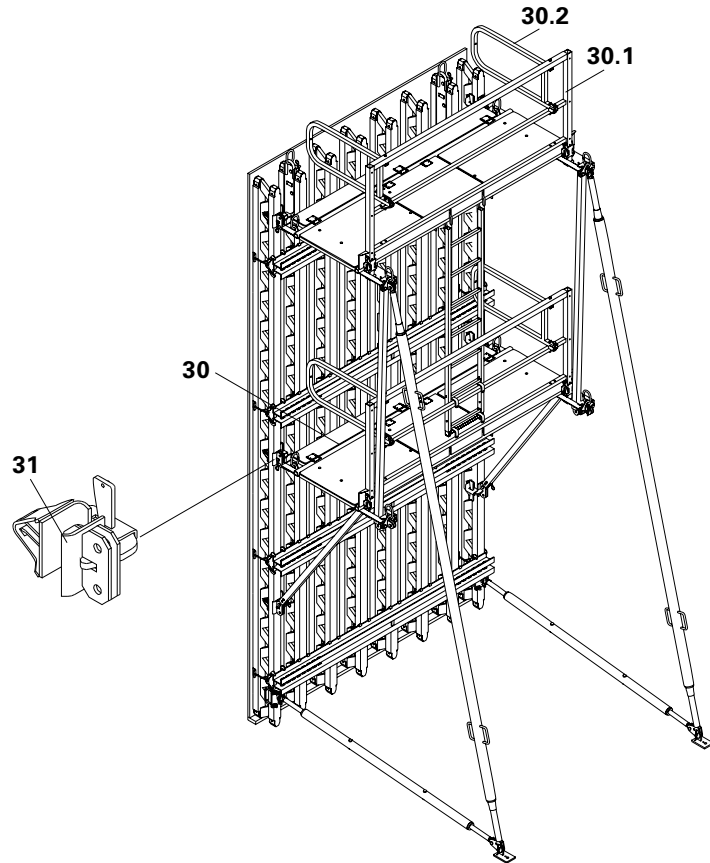

Fig. B2.04
The VARIO platform (30) is a pre-assembled and foldable unit with guardrails (30.1) and end handrail frame (30.2). It has integrated push-pull prop connections and crane eyes. It can be equipped with or without an access hatch and is mounted to the element by means of platform connectors (31). (Fig. B2.04)